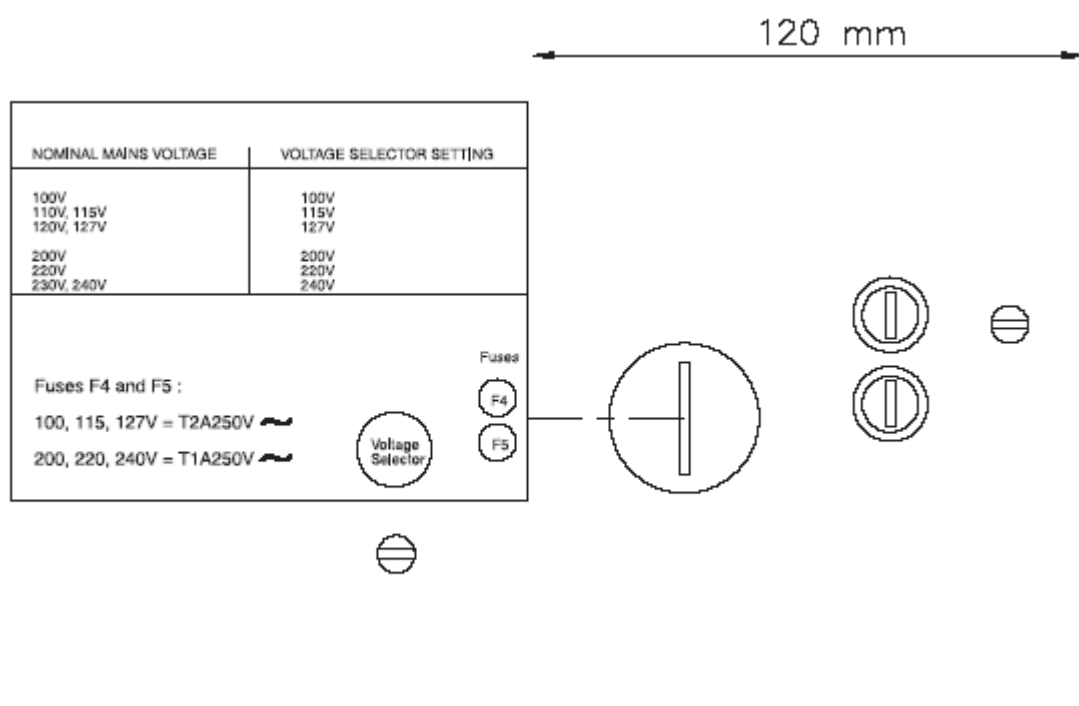

Figure 2-4 VOLTAGE SELECTOR & FUSES.
The Voltage Selector is located on the bottom plate of the audiometer, at the corner near the power inlet (see Fig. 2.4).
Two fuses are located on the bottom plate of the instrument, next to the Voltage Selector. **When fuses need to be replaced, both fuses must be changed.** To replace fuses, please proceed as follows (ref. Figure 2-4).
3. The fuses are located next to the Voltage Selector (see Figure 2-4).